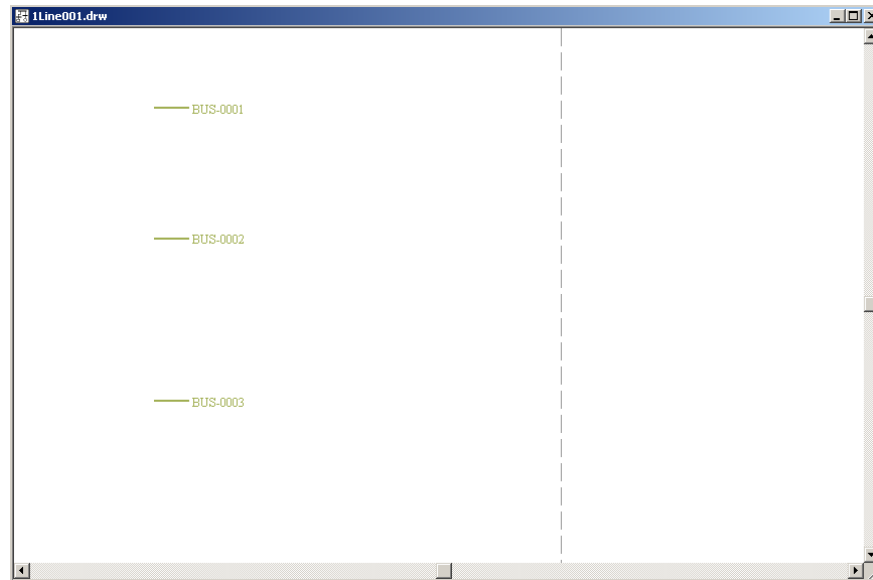

Fig. 8. Add two more buses.
7. Add two more bus symbols using the same process. Separate the bus symbols by a reasonable distance to leave room for components in between, as shown in Fig. 8. An option alignment grid can be displayed from the **One-line>Grid** menu.